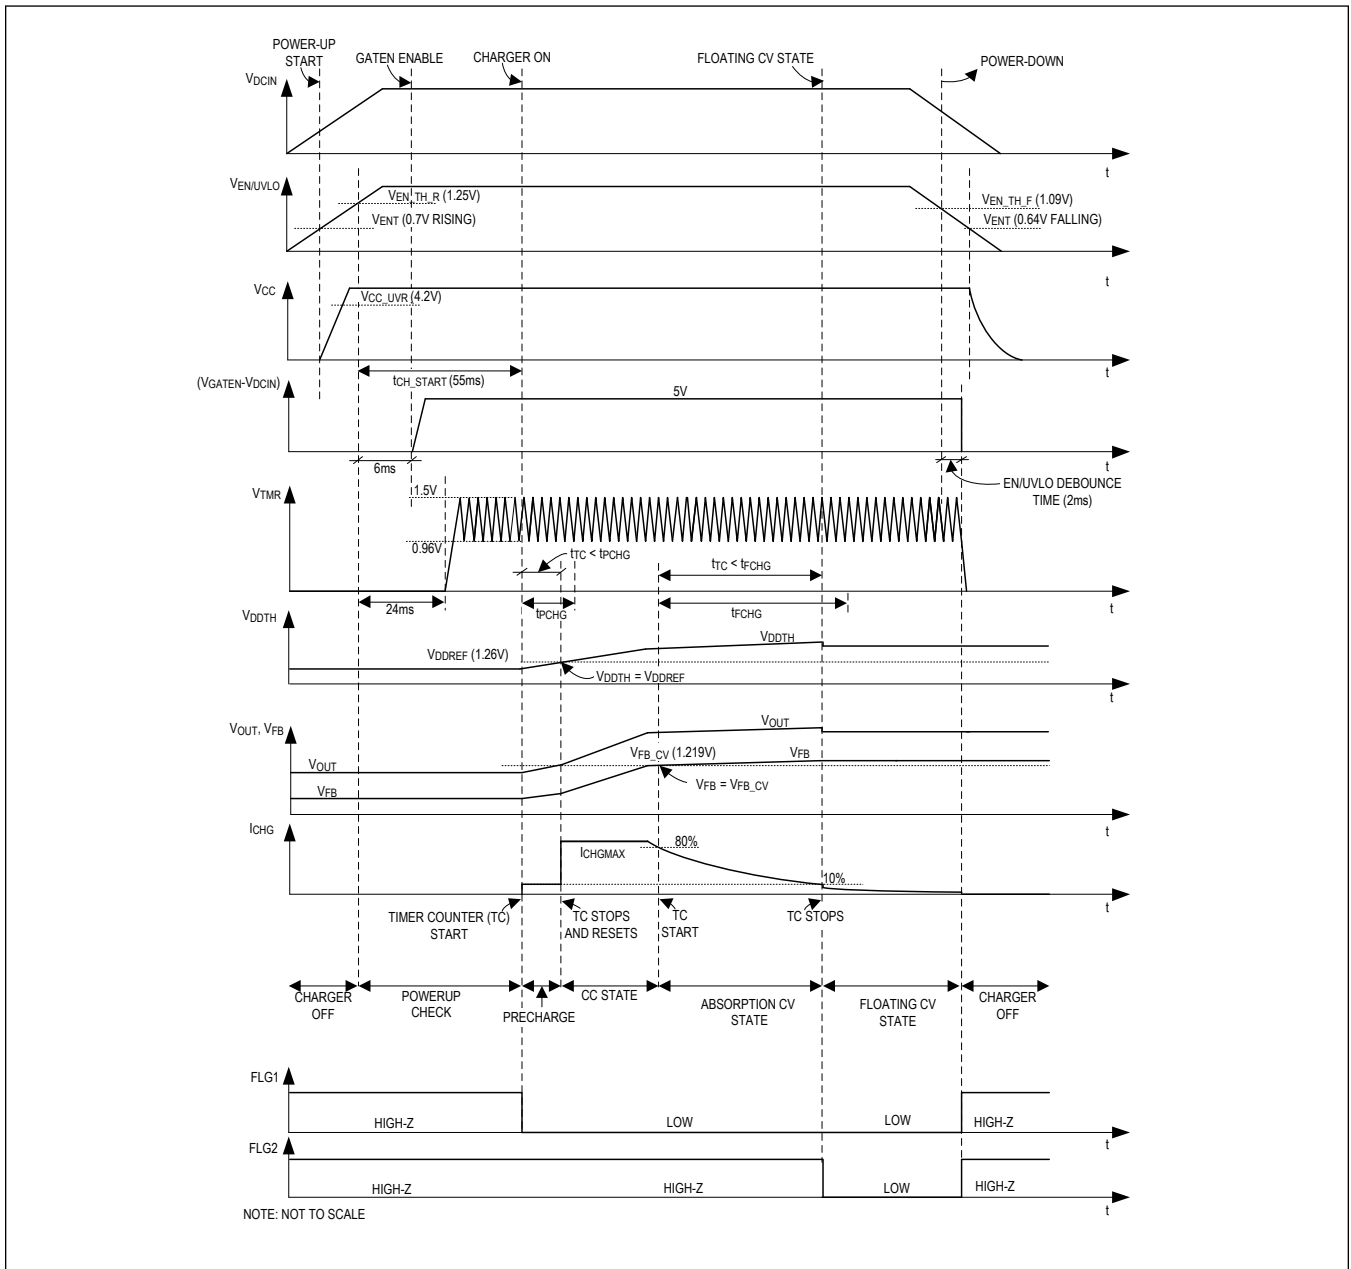
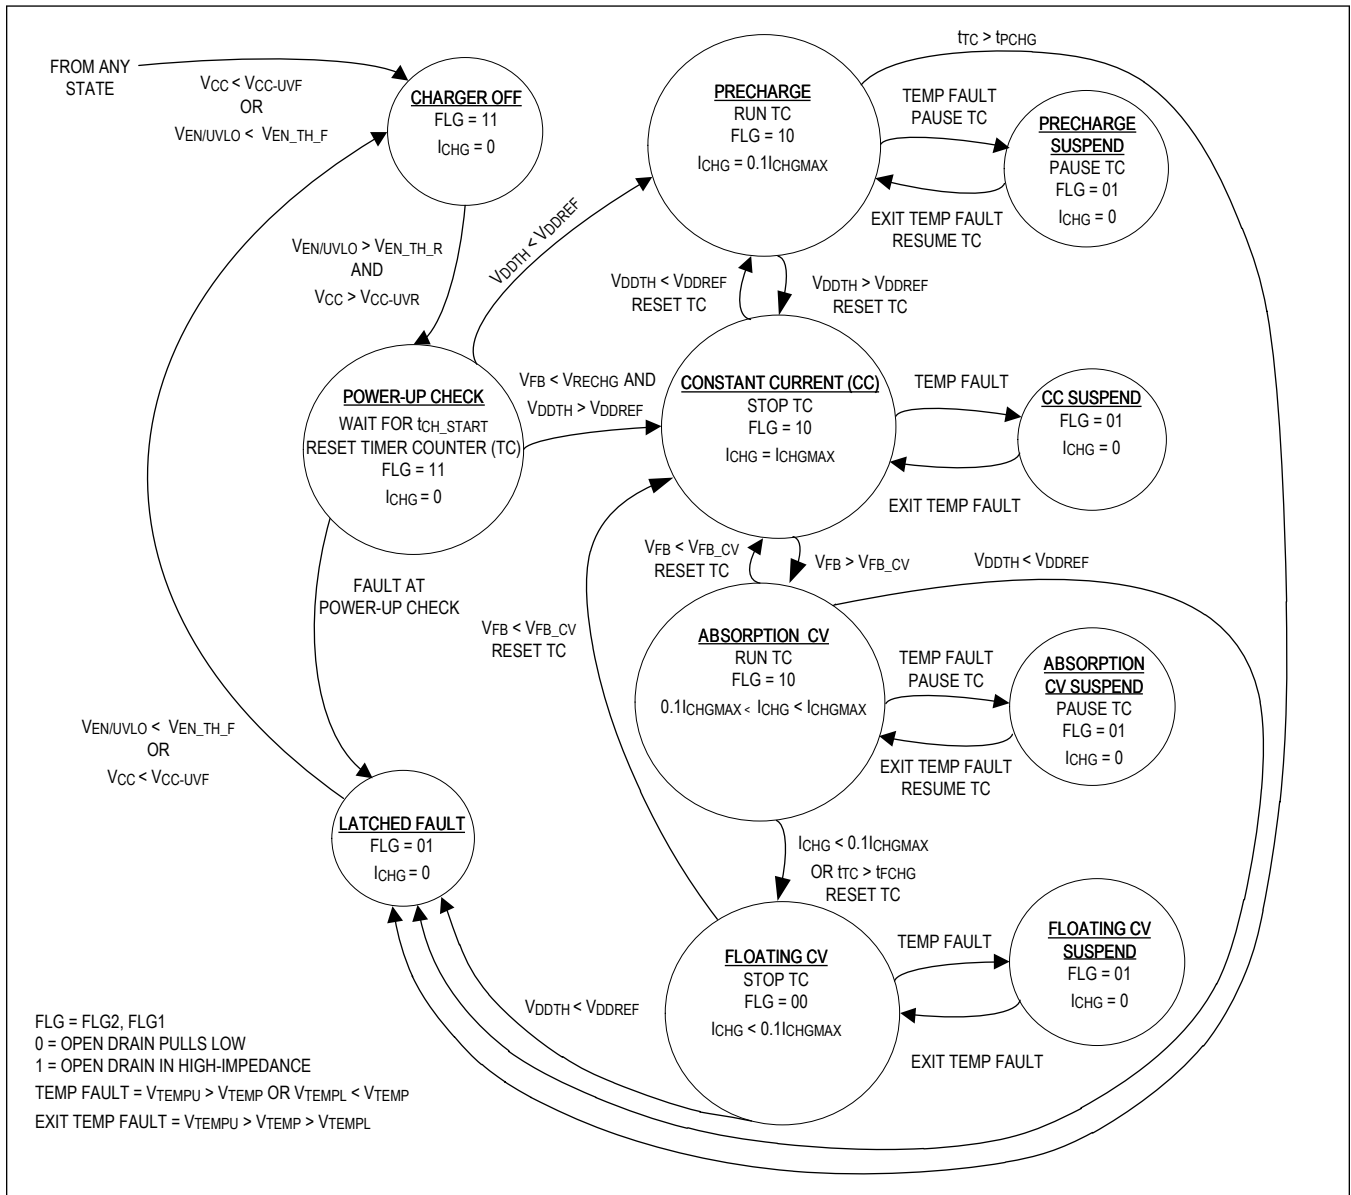

Figure 2. Charger Power-Up/Down Sequence and Pb-Acid Battery Charge Cycle
Figure 3. Charger-State Diagram
Figure 2 shows the MAX17702 power-up/down sequence when DCIN voltage is applied/removed, and a Pb-acid battery charge cycle. Figure 3 shows the MAX17702 charger-state diagram of the IC. MAX17702 offers precharge, constant-current (CC), absorption constant-voltage (CV), and floating constant-voltage states for charging the Pb-acid battery.